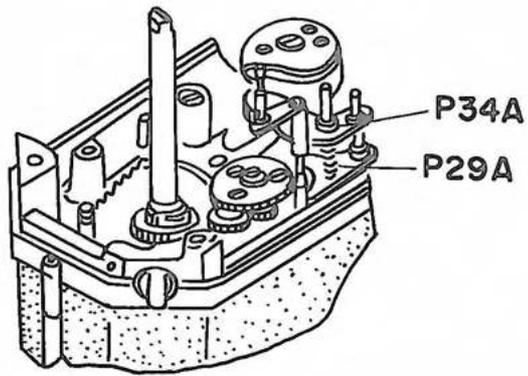

Fig. 48
When the gap shown in Fig. 48 (0.3 or less) is excessive, shutter speed increases. Contrarily, when the gap is insufficient, shutter speed reduced. Turn the eccentric pin (P30) and adjust gap correctly. (Fig. 48)
- (4) When governor (H1A) operating system is normal and adjustment still cannot be made as described above, replace the governor (H1A) or low speed interlock lever (C41A) with a new one. Refer to "4-12" below.
- (c) When shutter opens (like "B") at 1/60 or 1/1 sec., check P34A and P19 (shown in the Fig. 48 and 49) for their relation. If their relation is incorrect, adjust. When relative position between P34A and P19 is adjusted, check the shutter for 1/1000 sec., and readjust as required.